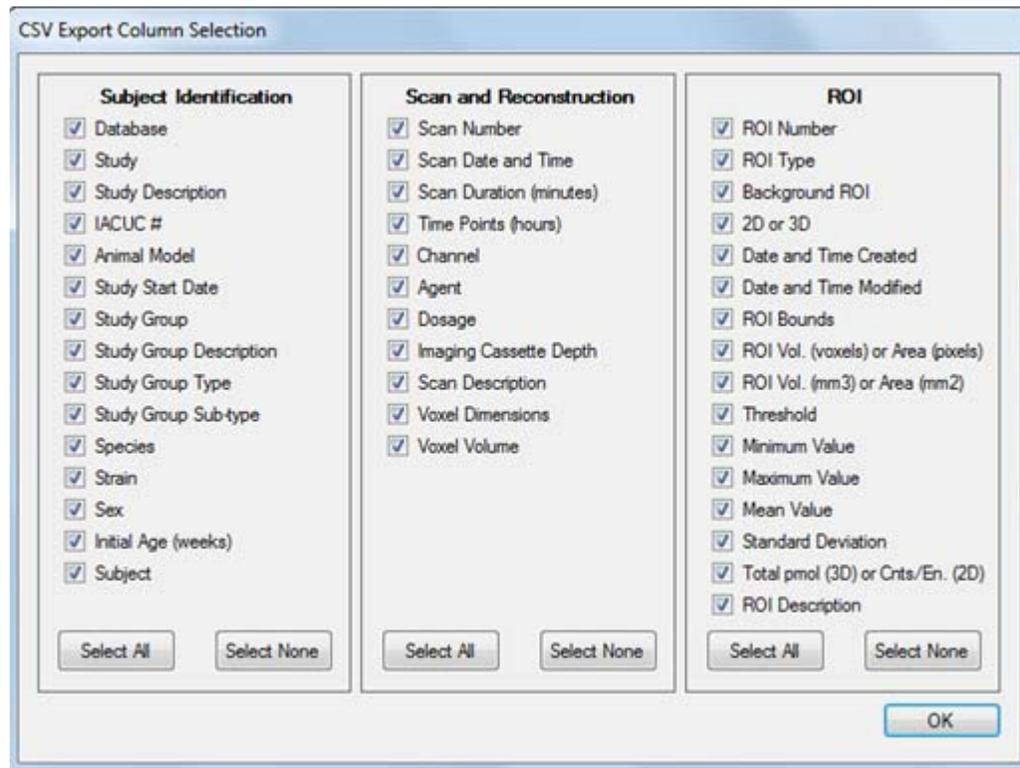

Figure 5-17. CSV Export Column Selection
4. Click the **Save** button to open the **CSV Export Column Selection** window (see Figure 5-17).